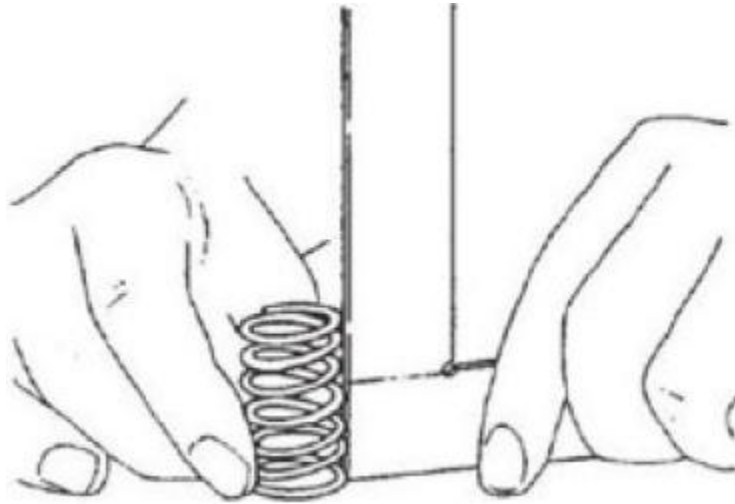

Figure 57. Valve Spring Squareness Measurement
4. Use a flat surface and a square to check each spring for squareness (Figure 57). See Valve Spring specification chart for the service limit.